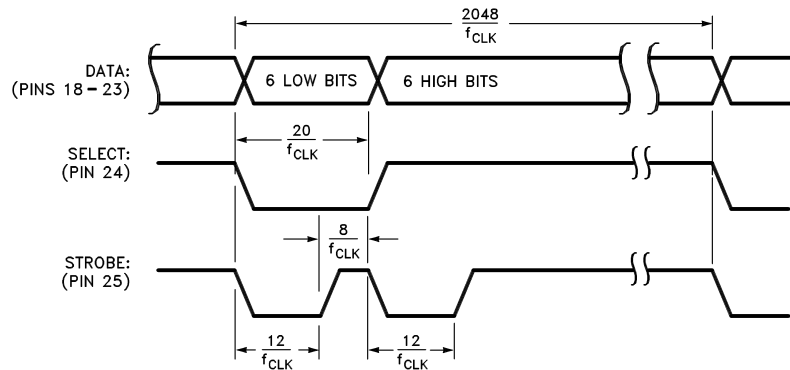

Figure 9. 12-Bit Multiplexed Output Timing
2. LM628 (12-bit output mode): Outputs two, multiplexed 6-bit words. The less-significant word is output first. The MSB is on Pin 18 and the LSB is on Pin 23. Pin 24 is used to demultiplex the words; Pin 24 is low for the less-significant word. The positive-going edge of the signal on Pin 25 is used to strobe the output data. Figure 9 shows the timing of the multiplexed signals.